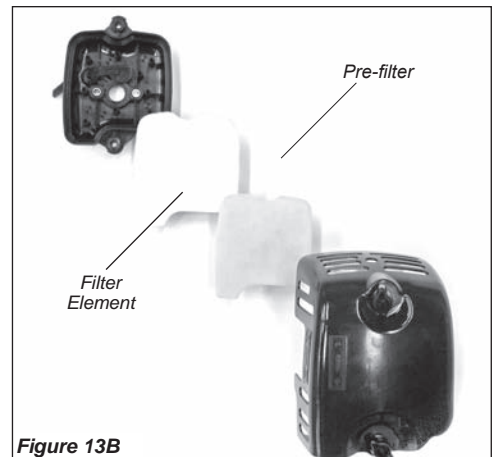

Figure 13B
2. Remove and inspect the pre-filter. If the pre-filter is torn or otherwise damaged, replace it with a new one. See Figure 13B.